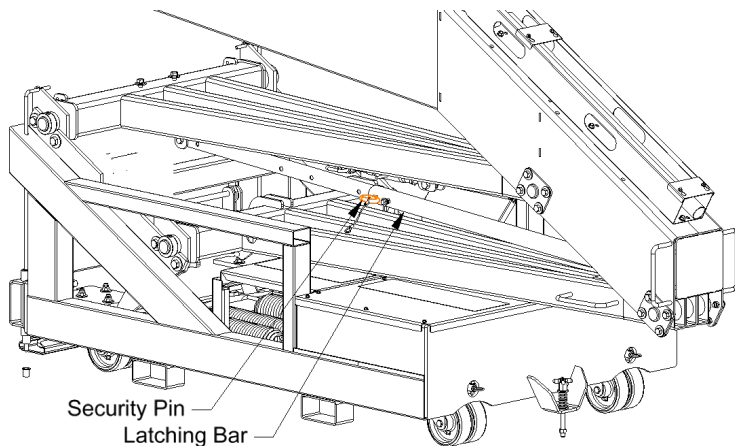
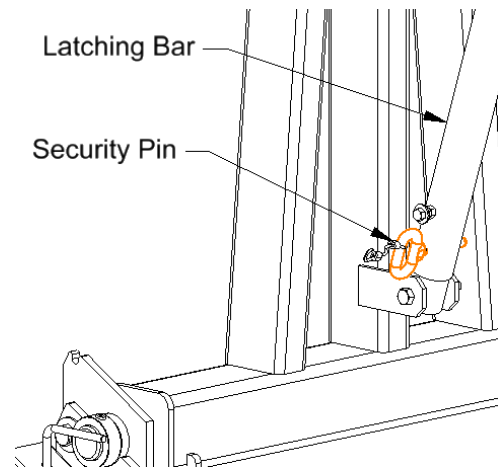

Figure 13 (storage position)
Figure 14 (play position)
- With board and goal mounted, confirm that the Locking Pin on the Slide Latch Bar is in place as shown in figure 13. Then, remove the (4) 1/2-13 Hex Bolts to disassemble the Shipping Brace from the main boom and front upright. Store the Brace and Hardware in a location for future use when replacing backboards or transporting the unit.
- Remove the Security Pin from the Sliding Latch Bar, (figure 13) and raise the boom to the 10' -0" playing position. Insert the safety pin into the Sliding Latch Bar behind the Front Upright (figure 14).